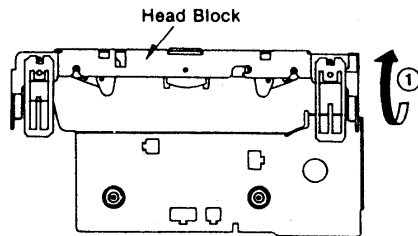

Fig. 4
3. Remove the head block in the direction of the arrow ① and ②. (See Fig. 4. and 5.)